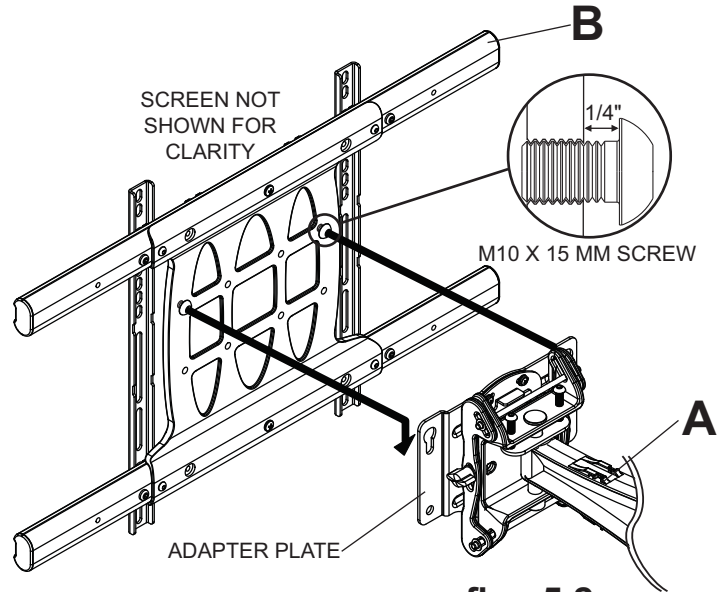

fig. 5.2
For Universal Adapter Bracket: Hook M10 x 15 mm screws into keyslots of wall arm adapter plate (A) as shown figure 5.2.